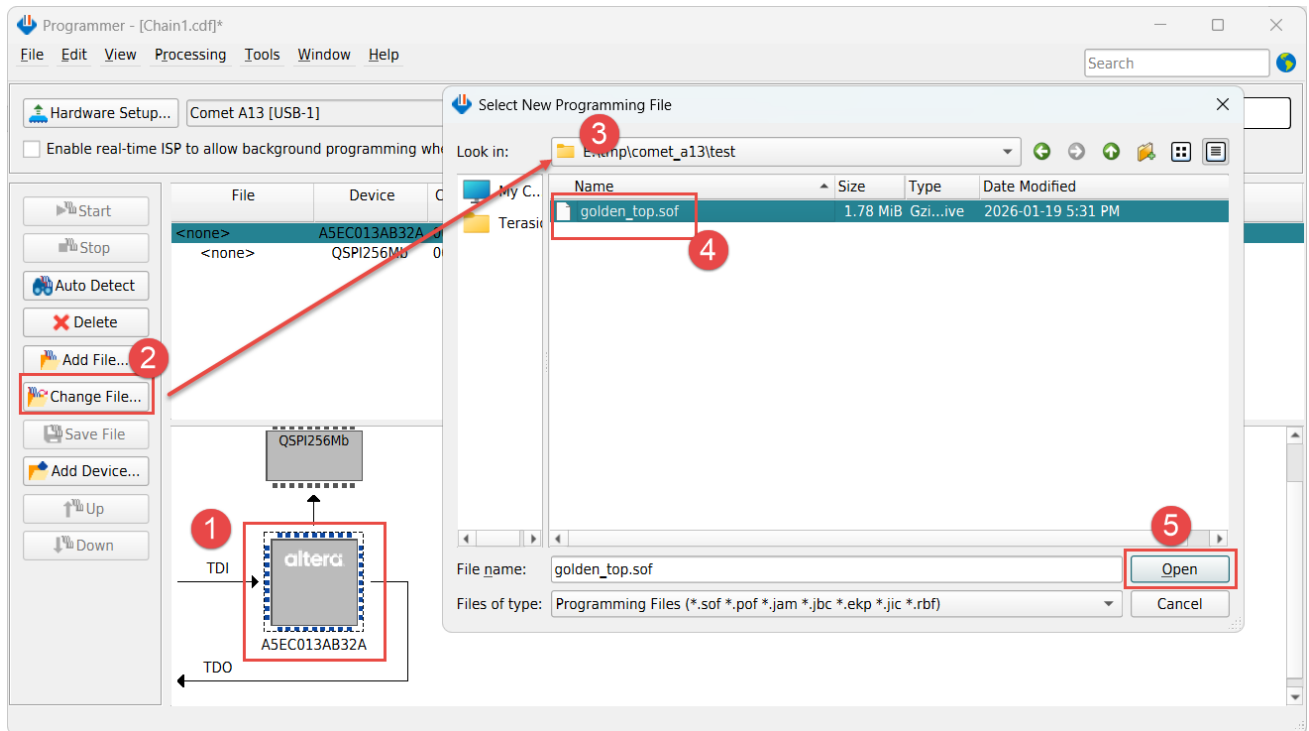

Figure 4-6 Select golden_top.sof file
- Click the FPGA device, then click **Change File** button to open the **Select New Programming File** window. Browse to select golden_top.sof in the **Select New Programming File** window as shown in **Figure 4-6**.